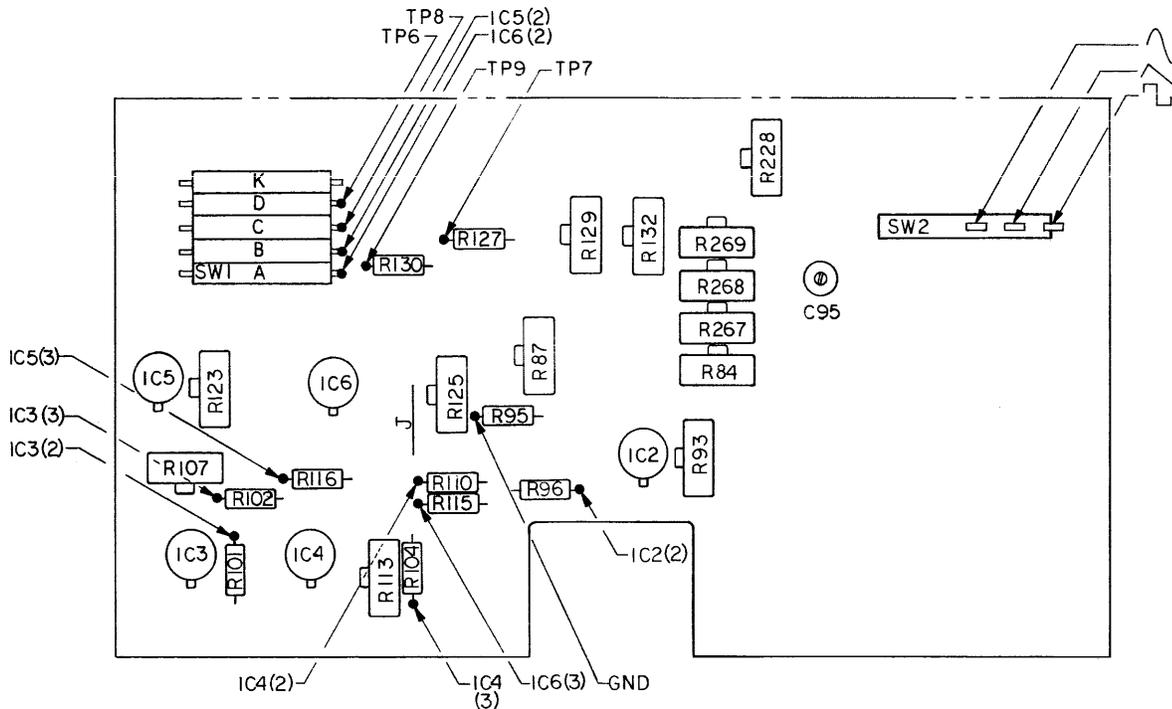

Figure 4-4 - Main Board Test & Calibration Points
- Set the voltage between IC3(2), and IC3(3) to 0 Vdc ±100 μV, using R107. See Figure 4-4.
- Set the voltage between IC4(2), and IC4(3) to 0 Vdc ±100 μV, using R113.
- Set the voltage between IC5(2), and IC5(3) to 0 Vdc ±100 μV, using R123.
- Set the voltage between IC6(2), and IC6(3) to 0 Vdc ±100 μV, using R125.
13. With FREQ DIAL still fully clockwise, set the voltage between IC2(2) and ground (at R95) to 0 Vdc $\pm 100 \mu\text{V}$, using R93.
17. Connect the oscilloscope probe (a type W or 1A5 plug-in module should be used with the scope) to \sphericalangle position of the WAVEFORM selector switch, SW2, see Figure 4-4.
20. Set 30 V P-P MAX control to 3/4ths of full CW, and connect oscilloscope probe to \sim position of the WAVEFORM selector switch (SW2), see Figure 4-4.